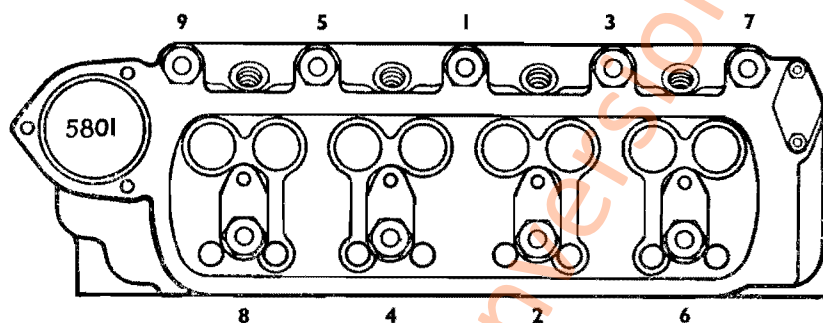

Fig. A.4
Slacken the eight rocker shaft bracket fixing nuts and the five external cylinder head stud nuts gradually, a turn at a time, in the order shown in Fig. A.4, until all the load is released.
**NOTE.**—The five external cylinder head fixing nuts must be slackened at the same time as the rocker shaft securing nuts, and in the order given in Fig. A.4, otherwise distortion may take place and result in water finding its way into the cylinder bores and the transmission casing.
Refitting is a reversal of the removal procedure, with special emphasis on the tightening of the rocker bracket and cylinder head stud nuts; these must be tightened in the order shown in Fig. A.4 and to the torque wrench figure given under 'GENERAL DATA'.
Insert the push-rods, replacing them in the positions from which they were taken. Replace the rocker assembly and securing nuts and fit the nuts finger-tight. Tighten all 13 nuts gradually, a turn at a time, in the order given in Fig. A.4.